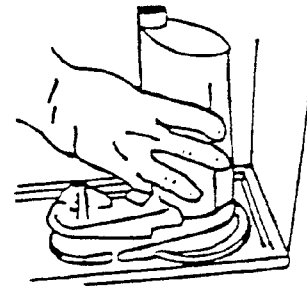

Figure 3
5. Lock pump housing in bowl by pushing housing straight into bowl location until it snaps into position. Press down on top of the impella section to assure it is down all the way into well section (See Fig. 3).